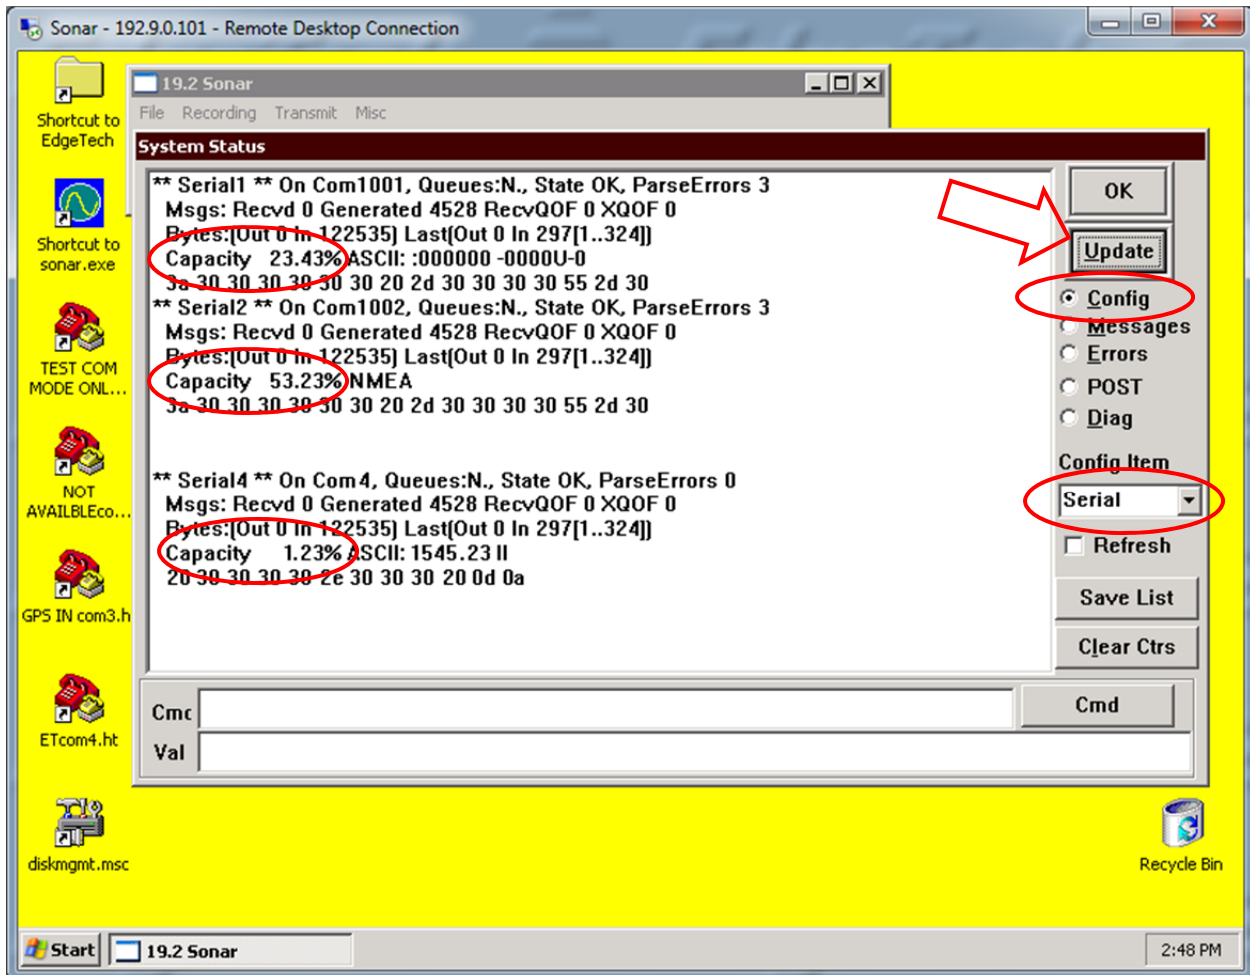

Figure 13: System Status Window
- Now click on Menu > **File** > **Show Status**. The *System Status* window will appear as shown in Figure 13.